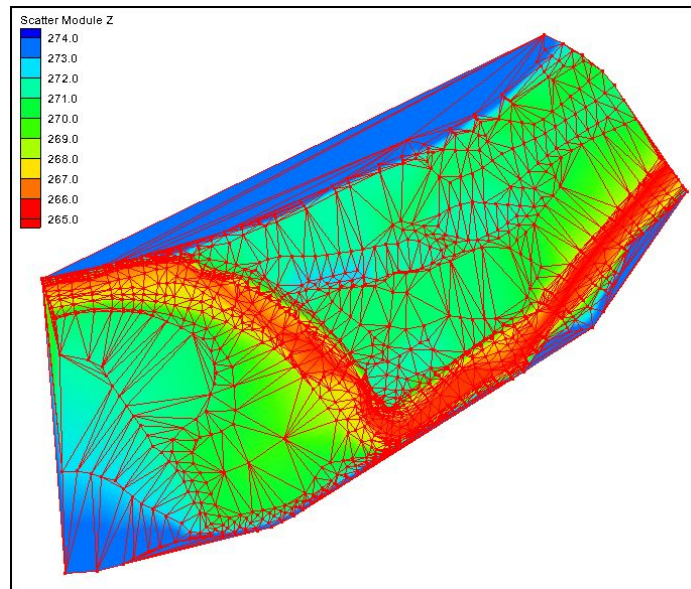

Figure 1. The triangulated and contoured data points
5. The resulting image should appear similar to Figure 1.